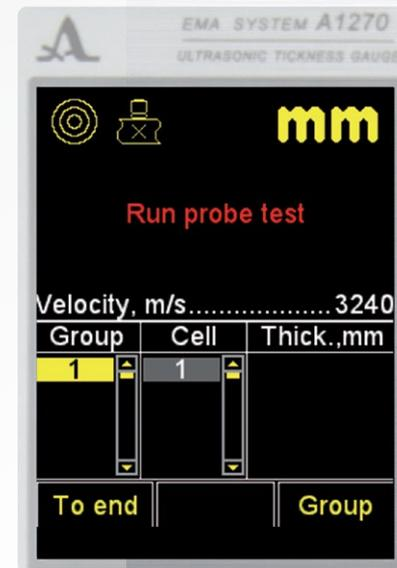

Figure 14
Otherwise the instrument will not operate. Any attempt to switch to one of the measurement modes will display the "Run probe test" warning message (Figure 14) on the screen.
▶ Figure 14 Continue